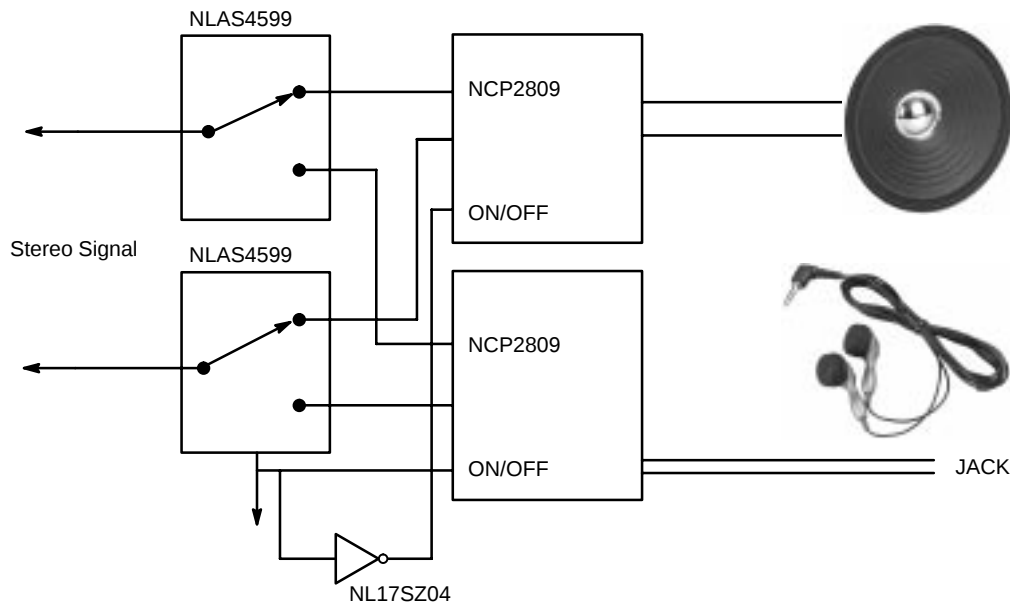
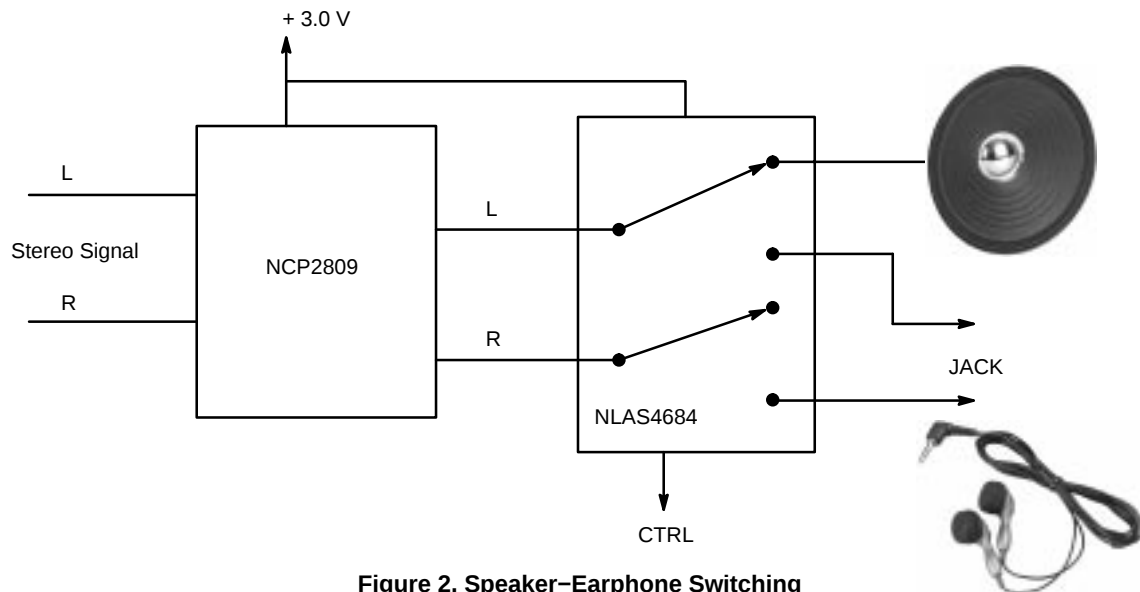

Figure 1. Two Stereo Amplifiers to Switch Earphone/Speaker
Figure 2. Speaker-Earphone Switching
**Alternative:** A new analog switch that exhibits  $\approx 0.5 \Omega$  series resistance can be used. This will insert less than 0.5 dB loss to the system when using 8–16  $\Omega$  speakers. The circuitry in Figure 2 is amazingly simple. It is almost as if we have a mechanical switch that is electrically controlled. The new embodiment reduces the number of parts to one amplifier such as the NCP2809, one NLAS4684 analog switch. Cost and almost more importantly board space is considerable reduced. The new circuit accomplishes the same function with 3 fewer parts board space, cost and complexity. The
### Comparison of Figure 1 and Figure 2
| Figure 1 |          |             |            |                     |
| Figure 2 |          |             |            |                     |